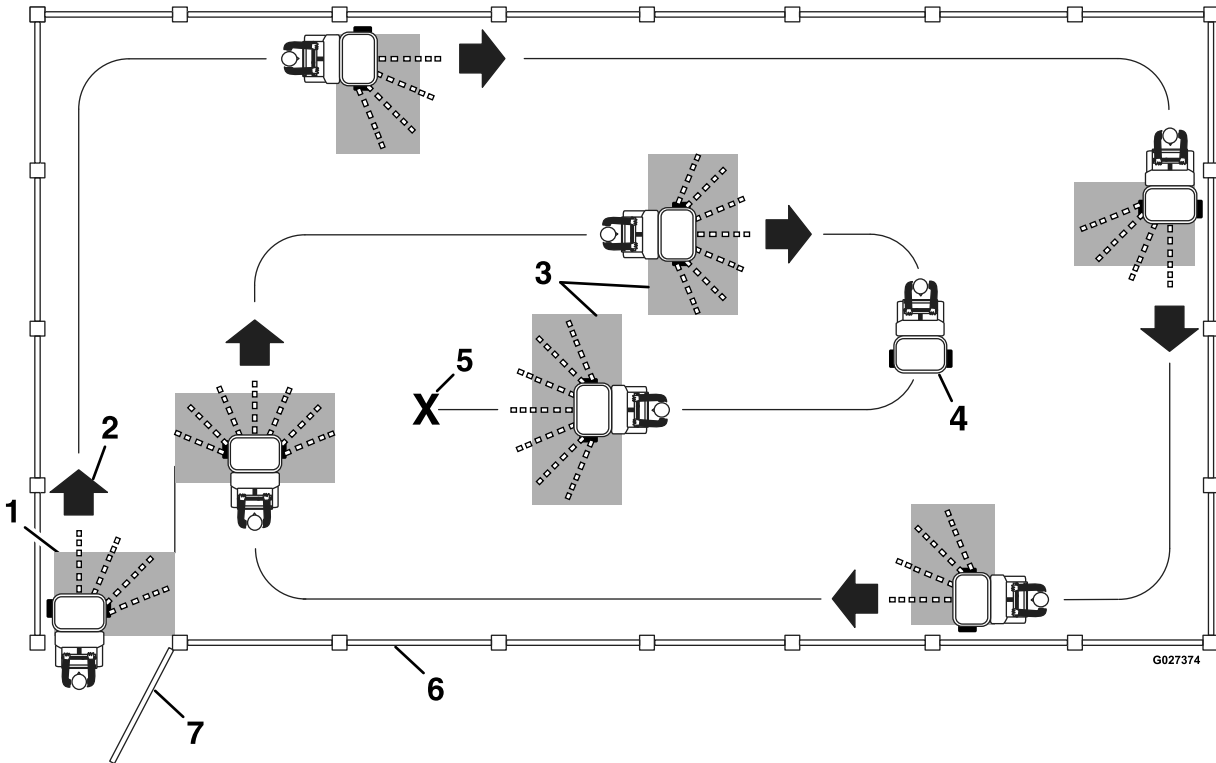

Figure 33
- To ensure uniform application, broadcast the material in an overlapping pattern as shown in Figure 33. The highest amount of material will dispense from the front of the hopper and less material from each side. You can adjust the distribution pattern to achieve the desired results.